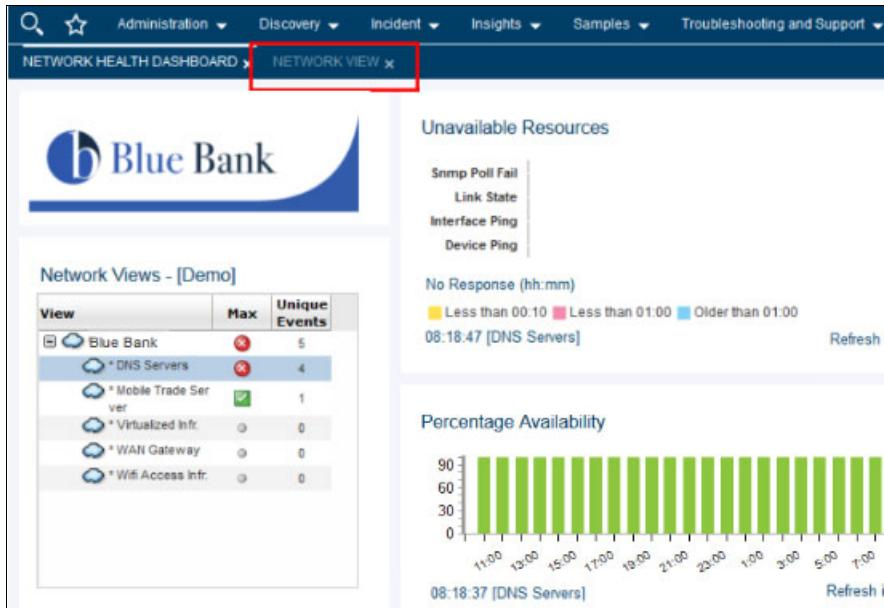

Figure 2-27 Network Views box
- Brock reviews the Network topology that is associated with the DNS Servers by double-clicking the DNS Servers line in the Network Views box (see Figure 2-27).